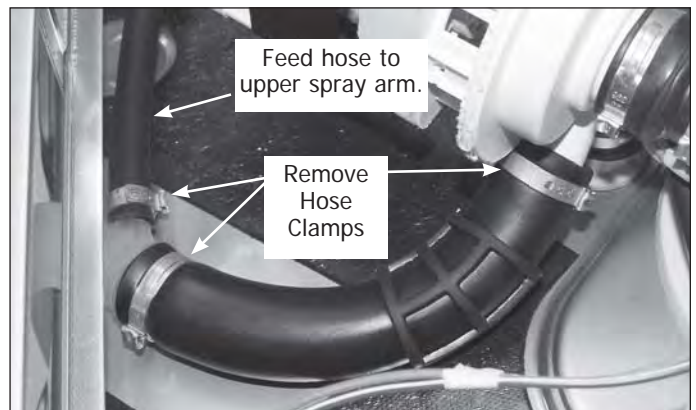

Figure 4-33.
8. Remove clamp then pull feed hose for upper spray arm mounted on the side of delivery tube. (See Figure 4-33)